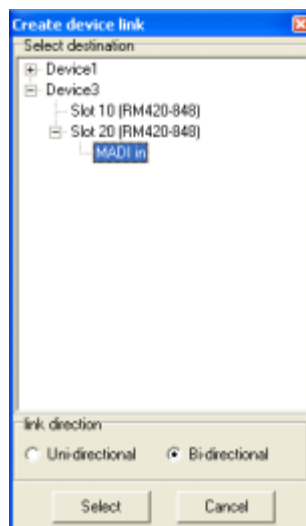

Figure 3–25: Creating a Device Link, window for selecting the destination.
5. Now select the destination of the connection in the same way as you did for the source. For MADI connections, you can also choose the option `Bi-directional` to automatically set up the two paired Device Links. (See figure 3–26.)